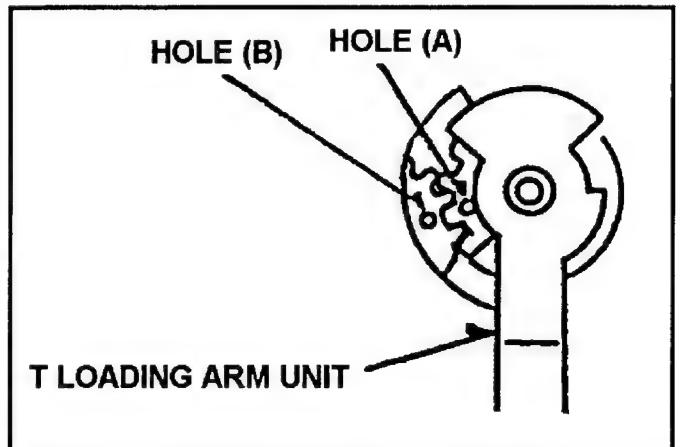

Fig. 4-14-1 Phase Adjustment of T1 Loading Arm Unit
1. When install the T1 Loading Arm Unit, then the hole (A) should be matched hole (B) as shown in Figure 4-14-1.
3. Post Height Pre-adjustment (Refer to item 4-4) and Linearity adjustment (Refer to item 3-17 [Tape Pass Adjustment Procedure]) should be performed.